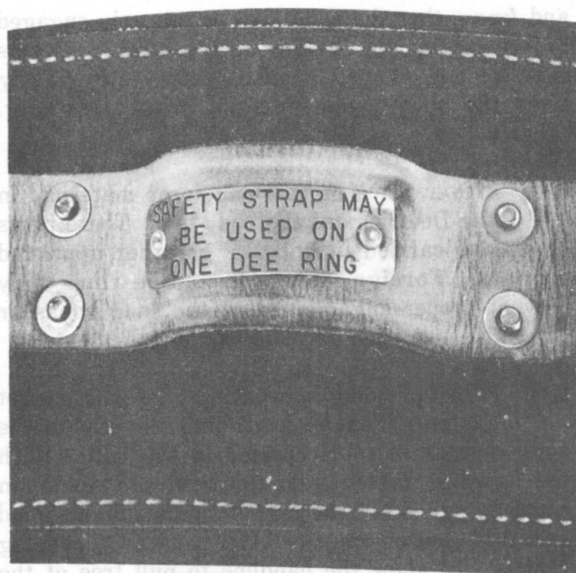

Fig. 5—Instruction Plate for D, E, and F Body Belts
(1) Form the end of the handline into a loop and place the loop in the handline carrier.
(2) Form the end of the handline into a bight and tuck the bight up under the body belt on the side or back so as not to interfere with climbing.
3.12 *A workman shall never secure himself with a safety strap that is placed around a pole, strand, or other support in such a manner that both snap hooks are engaged in the same Dee ring of the body belt except in specific instances covered in this practice and then only when using the D, E, or F Body Belts. The D, E, and F belts may be readily identified by a metal instruction plate as shown in Fig. 5.*